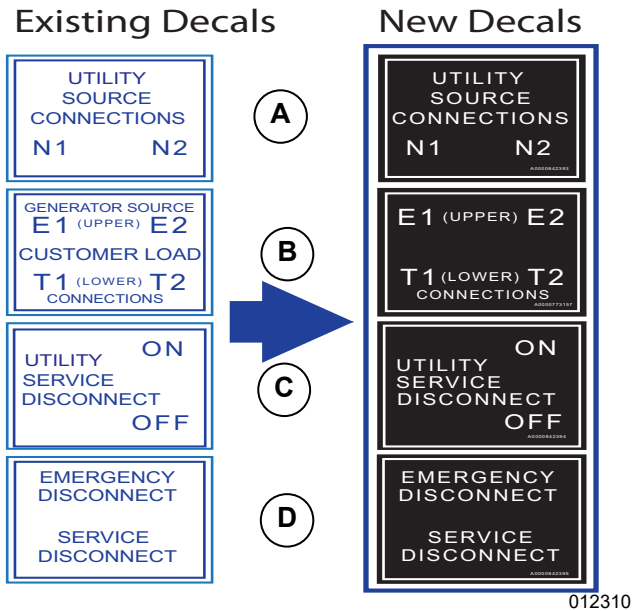

Figure 6. Replace ATS Decals
- See Figure 6. Replace the ATS Decals. Locate decal (A) inside ATS above N1 and N2 connections. Locate decal (B) inside ATS below E and T connections. Locate decal (C) on the interior component cover of the transfer switch. Locate decal (D) on the cover of the ATS.